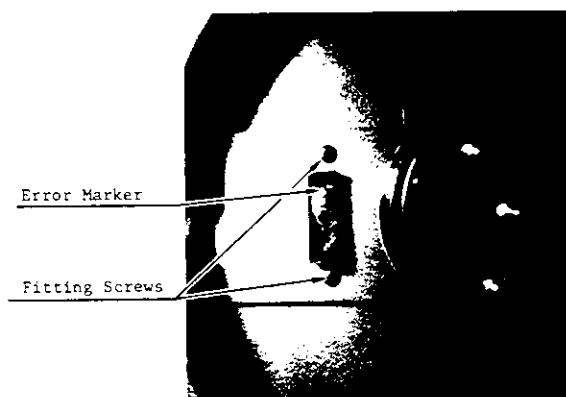

Figure L.16 Error marker
- (1) Open the rear door and disconnect connector CNP53 located above the file reel motor.
- (2) Remove the two error marker retaining screws shown in Figure L.16 and remove the error marker.